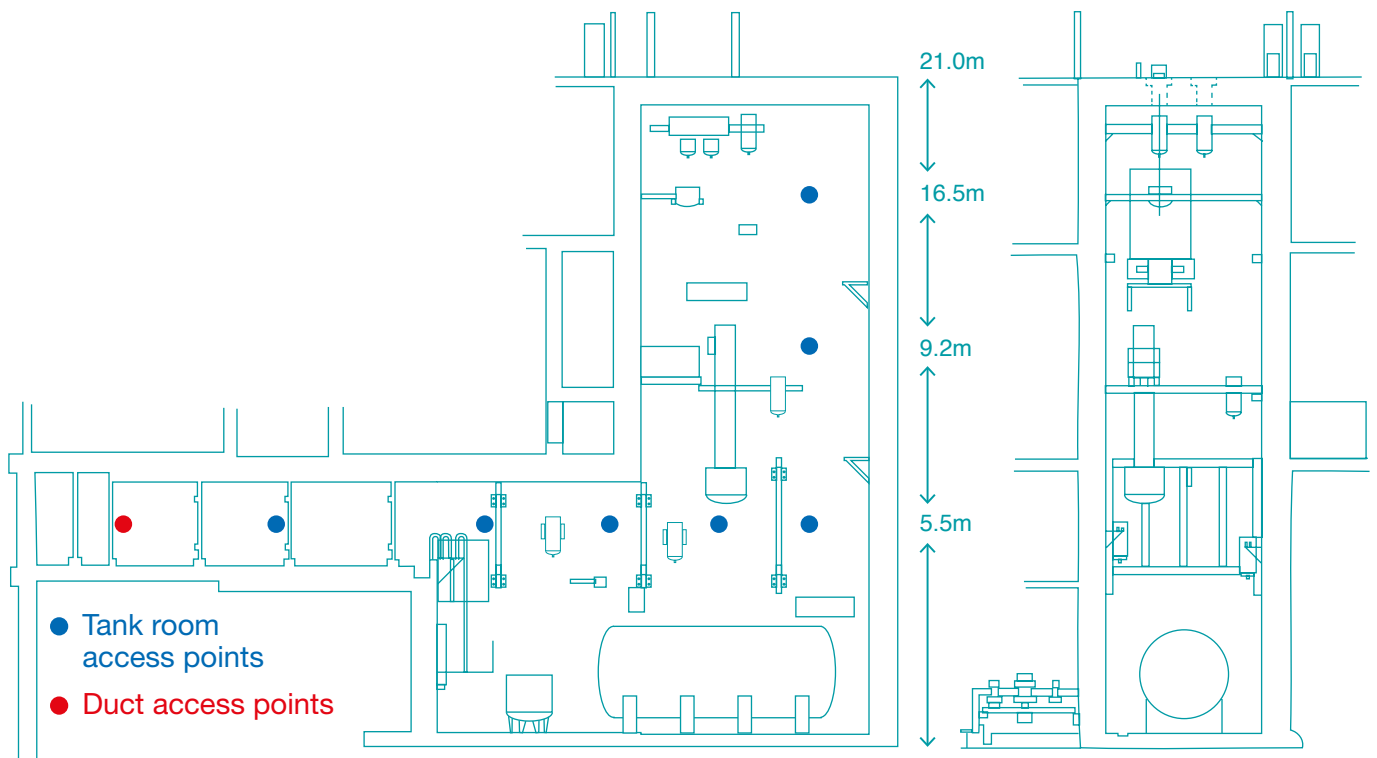

Figure 5: Representative tank room elevation diagram
- The tank rooms are variable in size, the largest being approximately 21m in height. Typically, there are multiple access ports available, which tend to be located at different heights. A representative diagram is provided in Figure 5;